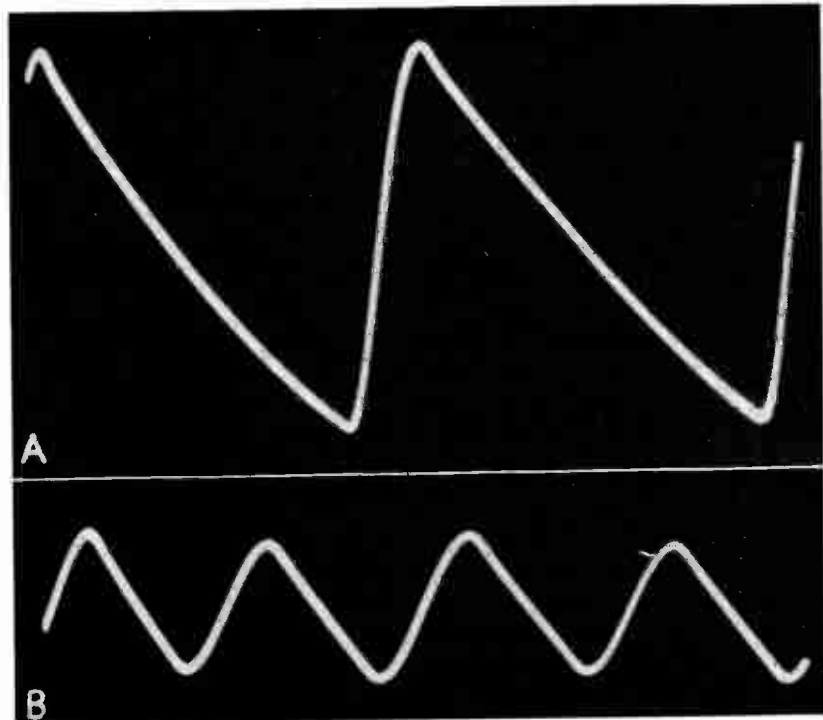

*Fig. 17-12. Unequal amplitudes in voltage from a power transformer having displaced electrical center.*
**28.** Shorted secondary turns in a power transformer displace the electrical center to cause successive voltage waves of unequal amplitudes such as those in Fig. 17-12, or worse. The inequality is more than can be smoothed by the filter.